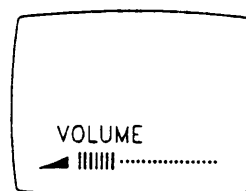

Fig 6.
- 2: Adjust CT601 for adjust lettering to centre of the screen (see fig 6).